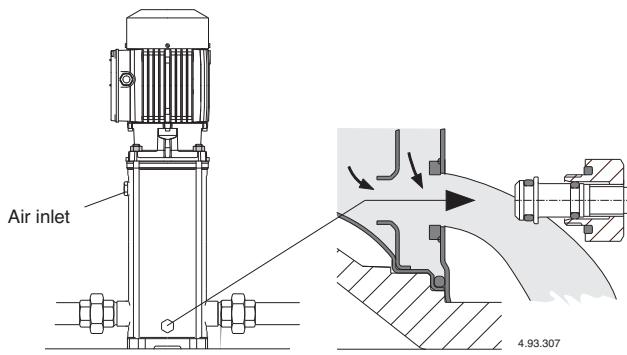

Fig. 4 Drainage
**When the pump remains inactive it must be emptied completely if there is a risk of freezing (fig.4).**
Before dismantling, close the gate valves in the suction and delivery pipes and empty the pump casing (**fig. 4**).